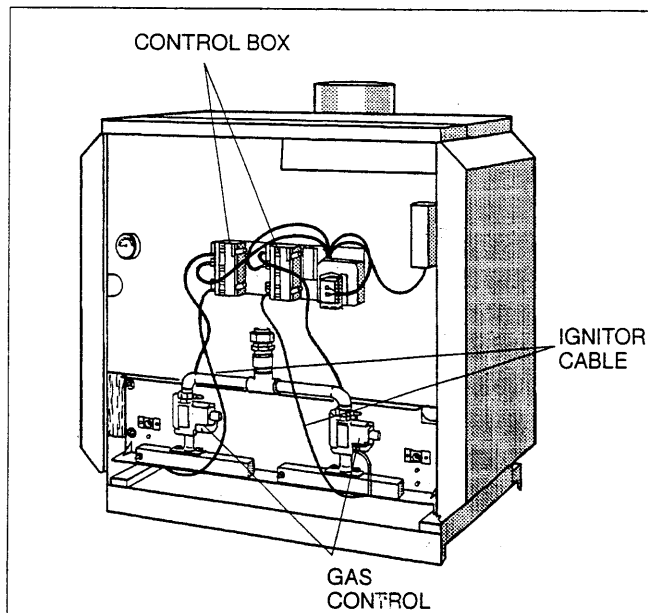
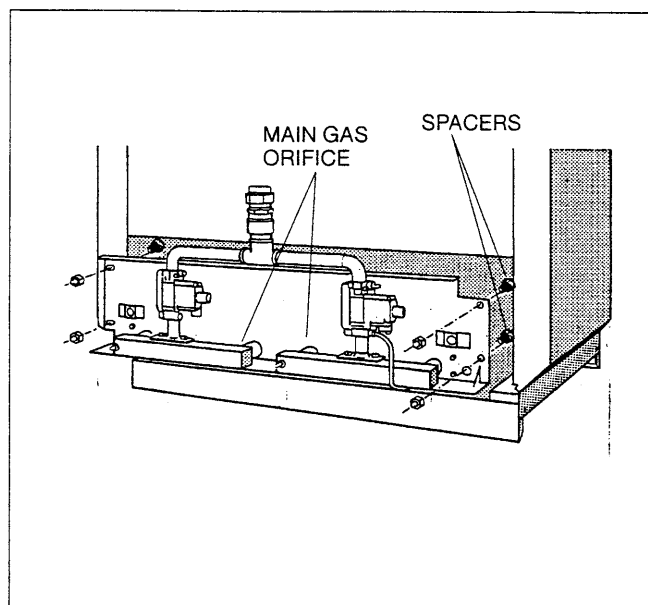

Fig.3
Fig.5
4. Disconnect the ignitor cables from the S 8600 Honeywell Control boxes, fig. 3
14. Remove the 4 nuts that secure the burner assembly to the boiler and remove the burner assembly from the boiler, fig. 3 and fig. 5.
15. Remove main gas orifices and washers from burner assembly fig. 5.
22. Install the burner assembly in the boiler in reverse order of removal. Ensure the spacers shown in fig. 5 are in place before installing the burner assembly in the boiler. Ensure the nuts are tightened firmly.
26. Reconnect the ignitor cables to the S 8600 Honeywell Control boxes, fig. 3.